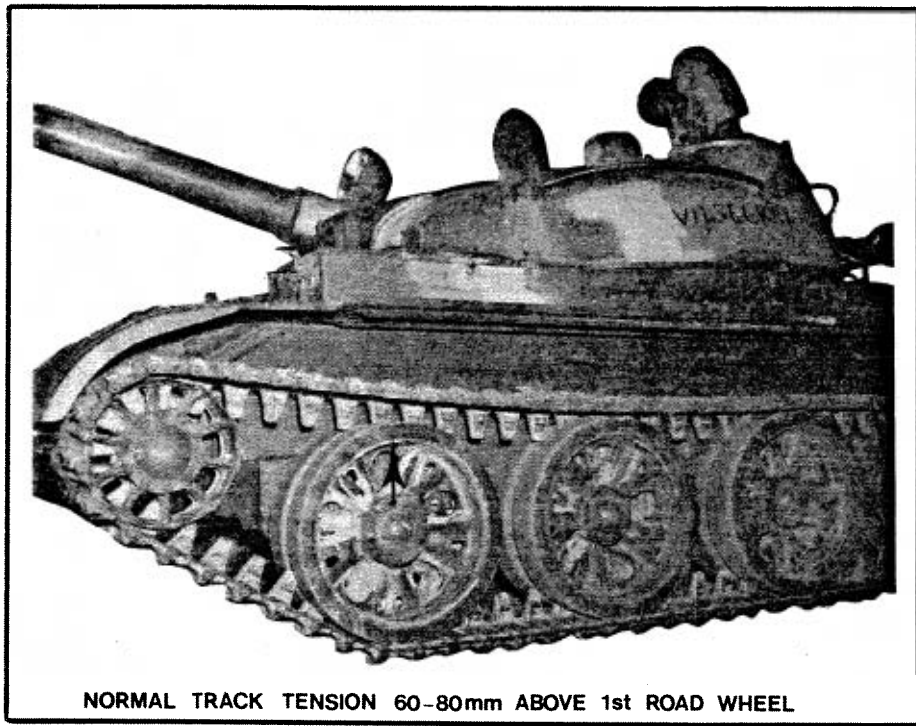
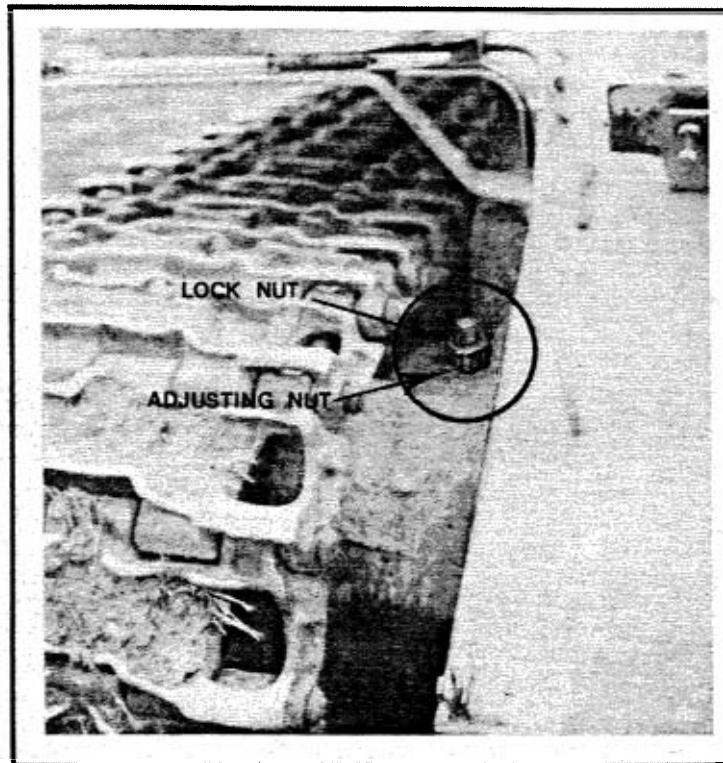

FIGURE 4-26 PROPER TRACK TENSION
FIGURE 4-27 TRACK TENSION ADJUSTING NUT
a. Checking track tension (Fig. 4-26).
(1) Track tension is considered normal if the upper run of each track is 60-80 mm above the 1st road wheel.
(2) In cases where the track is elongated and a normal tensioning cannot be achieved, remove one track pad from each track. Maximum number of track pads is 96; minimum number of track pads is 90.
b. Adjusting Track Tension (Fig. 4-27).
(1) Perform the track adjustment on level hard ground.
(2) Ensure that the idler wheel axle is not above the horizontal axis of the idler crank.
(3) Raise the front mud shield and lock in an upright position.
(4) Loosen the lock nut (small nut) by turning it counter-clockwise.
(5) Align special wrench over lock nut and adjusting nut (large nut) and turn clockwise to tighten the track or counter-clockwise to loosen the track until proper tension is attained.
(6) Remove special wrench and tighten lock nut (small nut).